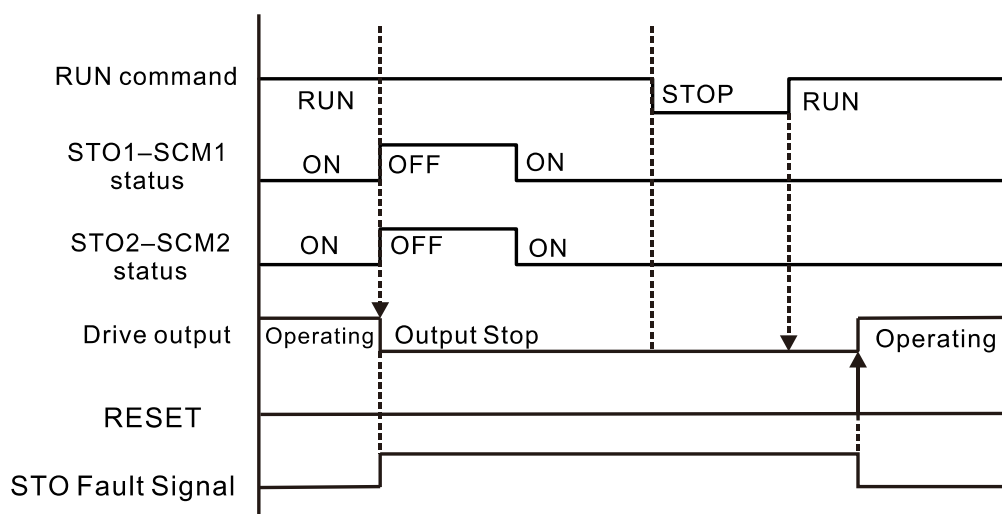

Figure 2
2. Common-mode noise in the power cable is transmitted through the stray capacitance and coupled into the adjacent signal cable, as shown in Figure 2. Several methods can be applied to reduce the effect of this common-mode noise; for example, shield the power cable and/or the signal cables, separate the power and signal cables, take the input and output side of the signal cable and twist them together to balance out the stray capacitance, let power cables and signal cables cross at 90°, etc.